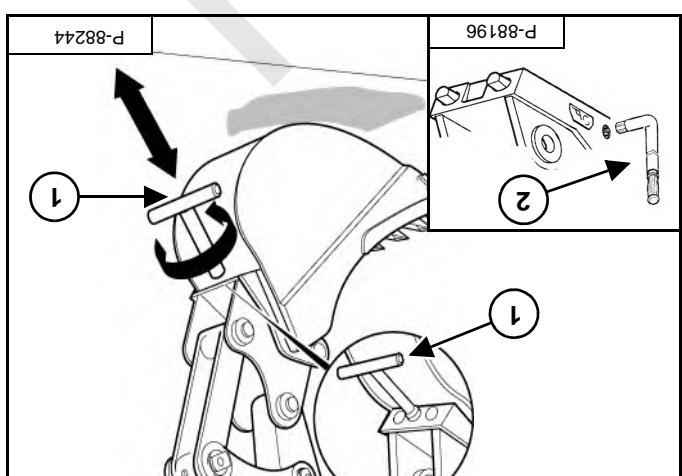

Figure 140
Install the supplied wrench (item 1) or (item 2) [Figure 140] and turn anticlockwise until the locking pins are disengaged. Remove the wrench.